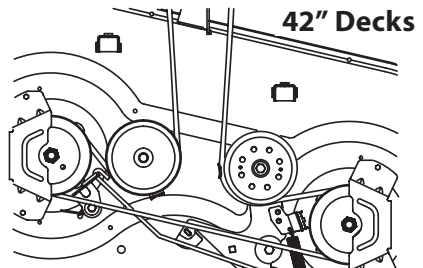
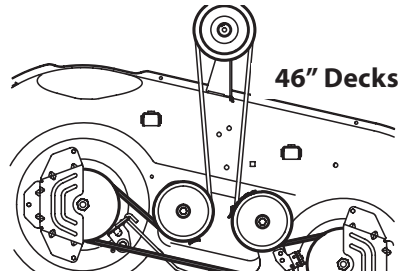
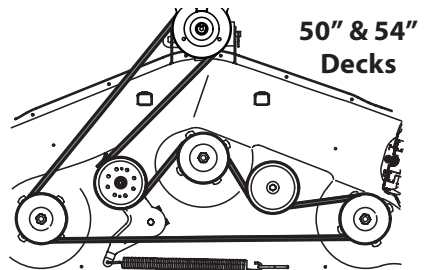

Figure 52
Figure 53
Figure 54
- Route the new belt as shown in the applicable figure below. See Figure 52 for 42" decks, Figure 53 for 46" decks and Figure 54 for 50" & 54" decks.